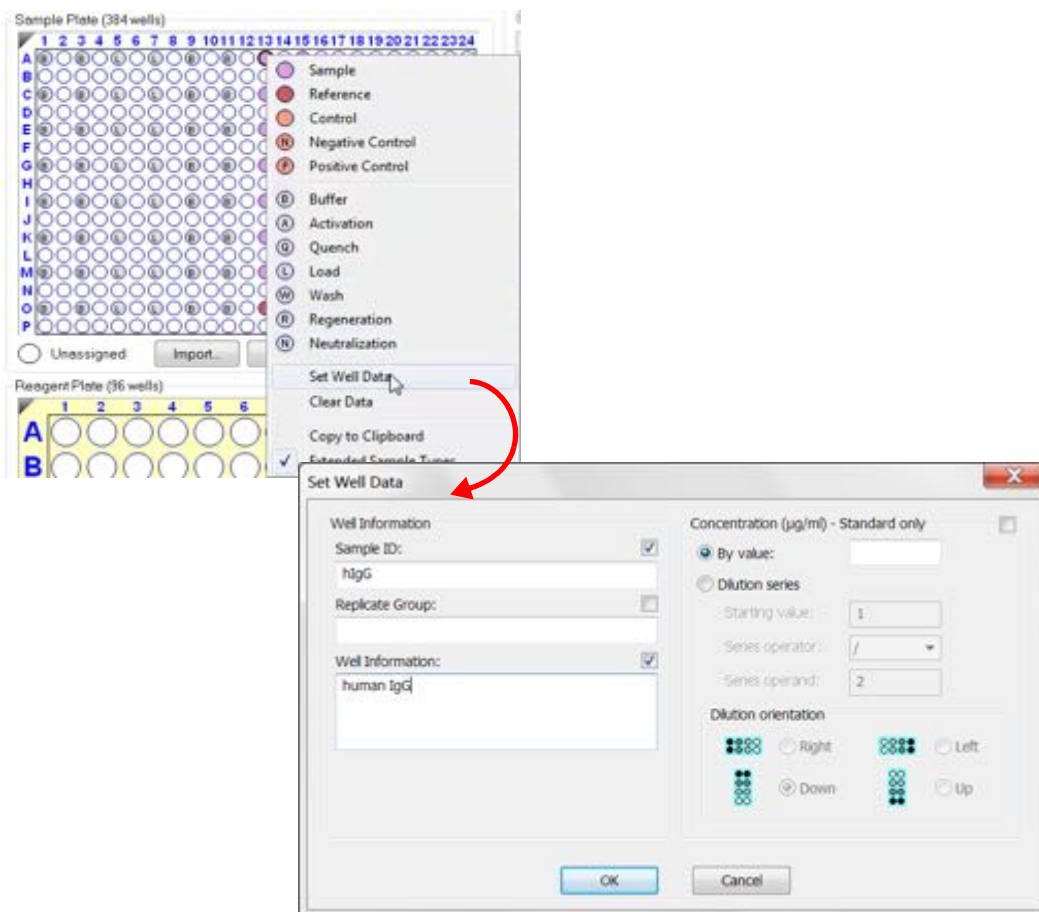

Figure 10-14: Add Sample Annotations from the Sample Plate Map
2. In the **Set Well Data** dialog box (see Figure 10-14), enter the **Sample ID** and/or **Well Information** and click **OK**.